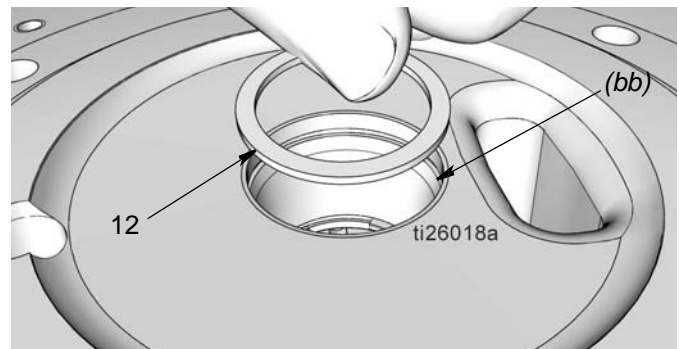

FIG. 31
- b. Verify retaining ring (51) is in place in side pump base (1).
- c. Install spacer (12) shown in FIG. 31.